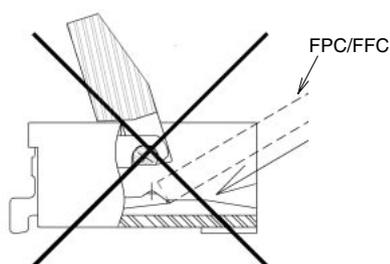

Fig.5
② Make sure that the FPC/FFC does not rub against the insertion slot or the contacts (Fig. 5).